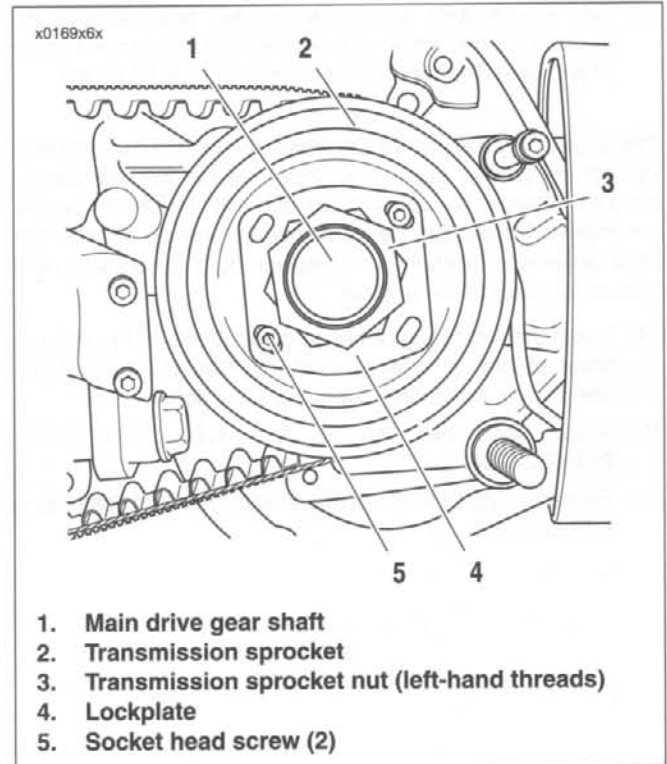
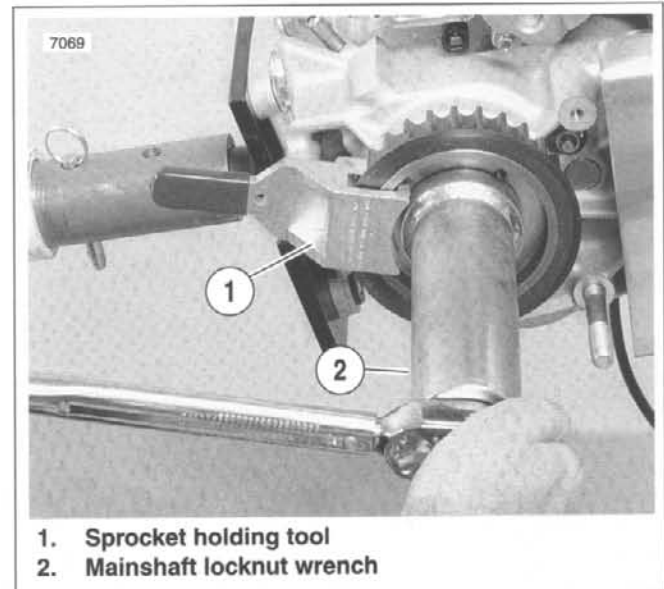

Figure 6-62. Transmission Sprocket
Figure 6-63. Transmission Sprocket Tightening
9. See Figure 6-62. Increase belt deflection by loosening rear axle and moving rear wheel forward. Install transmission sprocket (2) with secondary drive belt onto main drive gear shaft (1).
11. Apply a few drops of LOCTITE THREADLOCKER 262 (red) to the **left-hand threads** of transmission sprocket nut (3). Position nut with washer-faced side facing transmission sprocket. Turn the nut **counterclockwise** to install it onto main drive gear shaft.
- a. See Figure 6-63. Install SPROCKET HOLDING TOOL (1) (Part No. HD-41321) as shown. Use MAINSHAFT LOCKNUT WRENCH (2) (Part No. HD-94660-37B) and a torque wrench to tighten sprocket nut to 50 ft-lbs (67.8 Nm) INITIAL TORQUE ONLY.
- d. See Figure 6-62. Install lockplate (4) over nut (3) so that two of lockplate's four drilled holes (diagonally opposite) align with sprocket's (2) two tapped holes.
13. See Figure 6-62. Install two socket head screws (5) through aligned holes of lockplate and into tapped holes of sprocket. Tighten to 90-110 in-lbs (10.2-12.4 Nm).